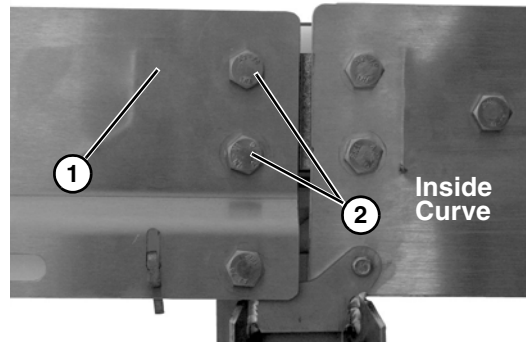

Figure 15
4. Secure straight section (Figure 15, item 1) onto curved section with two hex head bolts (Figure 15, item 2) with bolt heads to the outside as shown.